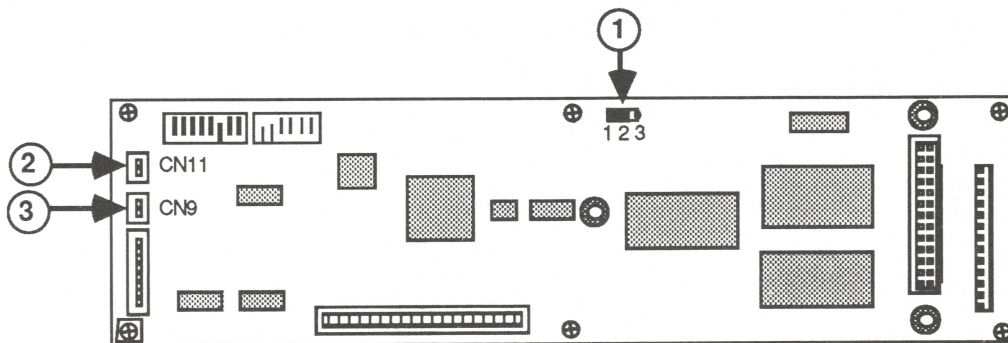

FIGURE 2
- A selector switch that allows this board to be used with both the mechanical and the optical paper sensor (Figure 2, #1). If a mechanical paper sensor is installed, the jumper should be on pins 1 and 2. If an optical paper sensor is installed, the jumper should be on pins 2 and 3.